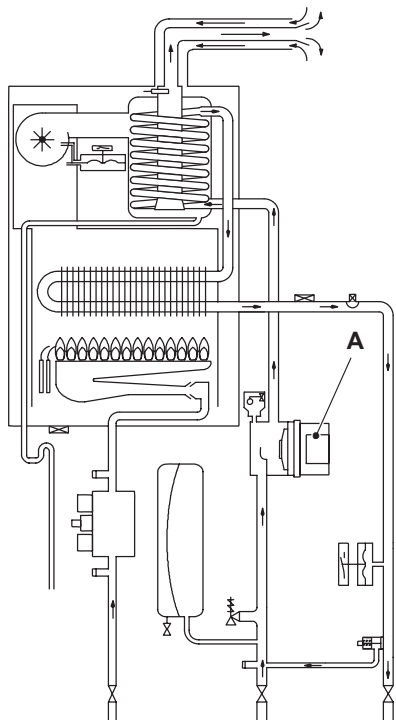
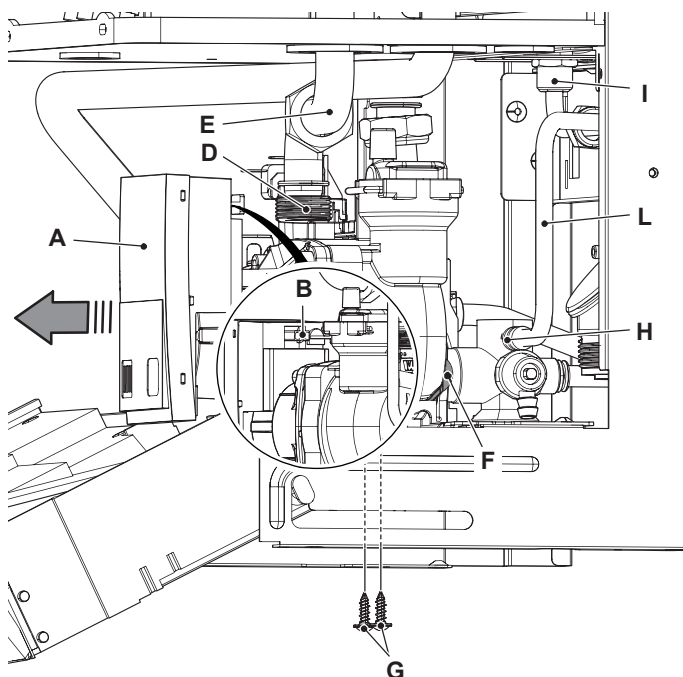

Figure 7.1
Figure 7.2
The pump A in Figure 7.1 and Figure 7.2 has the function of making the water in the main circuit circulate through the main heat exchanger, the condensing heat exchanger and therefore through the c.h. system (during the c.h. function) or through the secondary heat exchanger (during the d.h.w. function).
- 3 Disconnect the connector B (Figure 7.2).
- 4 Loosen the connection D (Figure 7.2), and pull up and turn to the left the pipe E.
- 5 Remove the fork H, loosen the connection I and remove the pipe L (Figure 7.2).
- 6 Remove the locking plate F (Figure 7.2).